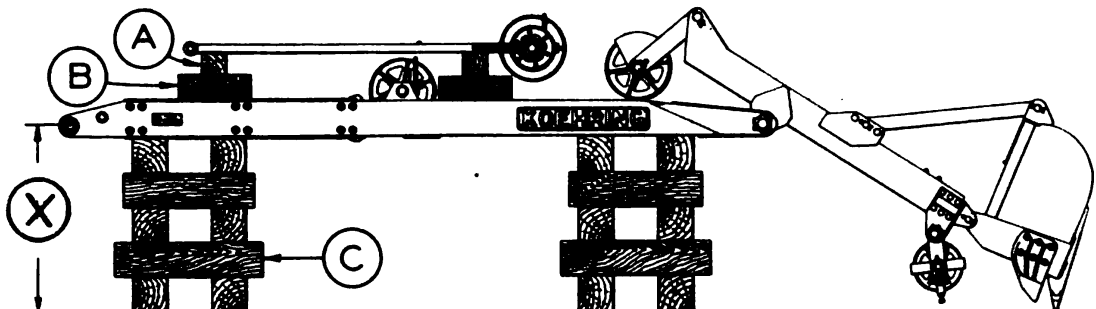
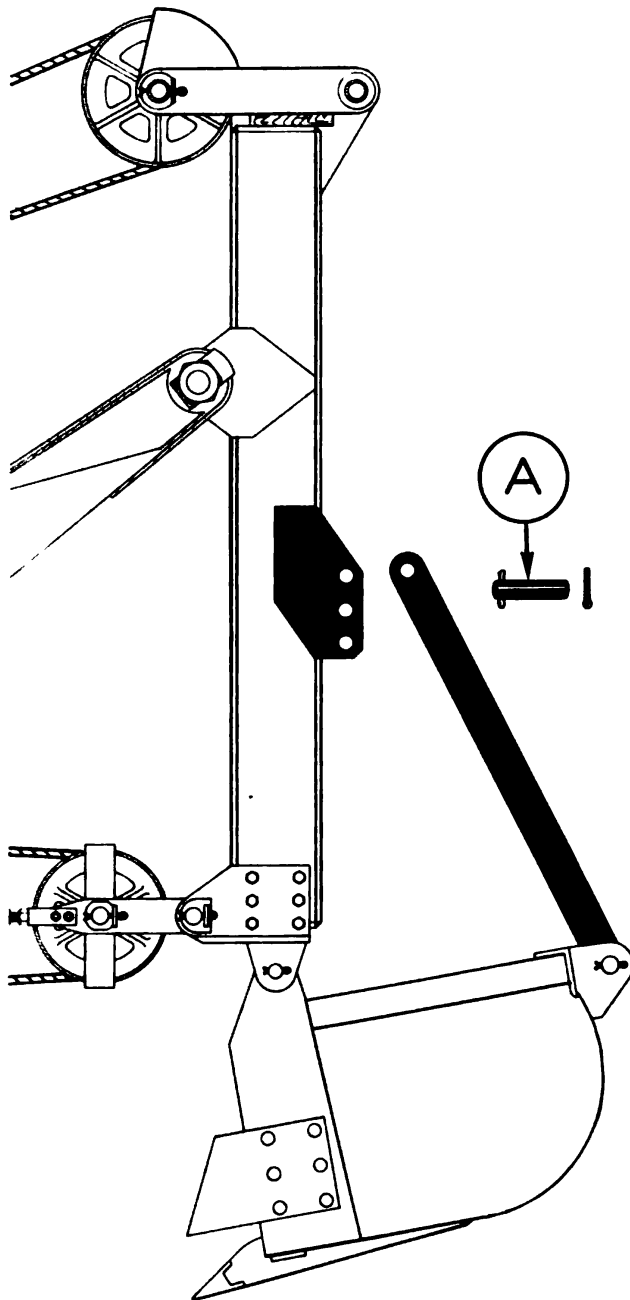

FIGURE 76
FIGURE 90
Machine operating adjustments are the same as described under "Operating Adjustments", Pages (87) to (93). If a shovel has been changed to a pull shovel, the drag clutch should be set to back-lock by screwing out on adjusting screw (E), Figure (63), Page (88). The angle of the dipper, in its relation to the dipper arm, can be adjusted by moving the dipper adjusting link Figure 90, up or down on the dipper arm. To adjust the angle, line up the turntable with the crawlers then lower the dipper to the ground. Release the hoist and drag brakes to allow a generous amount of slack in the cables. Remove link pin (A) and, with dipper on the ground, travel the machine backward or forward depending upon the adjustment desired - until the pin (A) can be inserted into the selected hole. To remove pull shovel attachment, line up the turntable with the crawlers; extend the dipper arm out as far as it will go then lower the boom to position on two cribs as shown in Figure 76, Page 97. Remove the hoist and pull cables. Remove the boom foot pins then back the machine about one foot away from the boom. Place some blocking on top of the boom near the dipper arm and some 4" x 4" or similar timbers near the foot of the boom as shown on page 97. Lower the jib frame to this blocking and timbers, then remove jib frame mounting pins and jib frame cable. Back machine away from jib frame.